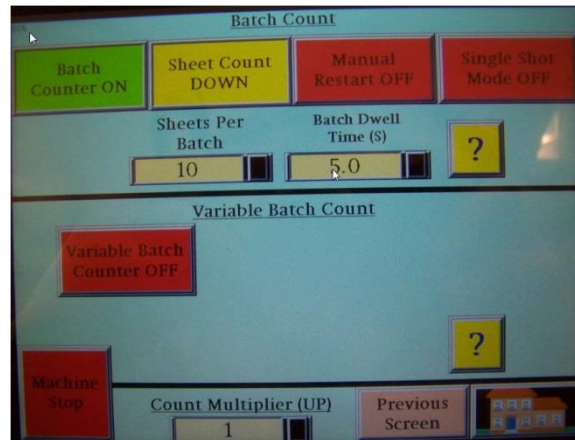

Figure 21
2. Check the top section and the middle section of the **Batch Count screen** for a green button. If it is in batch mode one of these buttons should be green, either the **Variable Batch Counter On** in the middle section or the **Batch Counter On** in the top section. To exit batch mode press whichever of these buttons that is green. See figure 21.
3. This screen has three sections divided by two dark stripes. The lowest section has the **Count Multiplier (UP)** numeric entry. Press the white box to get a keypad. See figure 21.
8. The **Count Multiplier (Up)** is the same Count multiplier (Up) from the **batch count screen** (figure 21). It is used only when slitting. Enter the number of pieces each sheet will become after slitting. This will multiply the current count by that number to show the finished total number of sheets after slitting. It does not matter which screen this value is entered. It will write to the same address either way. The last value entered will be the one that is used.